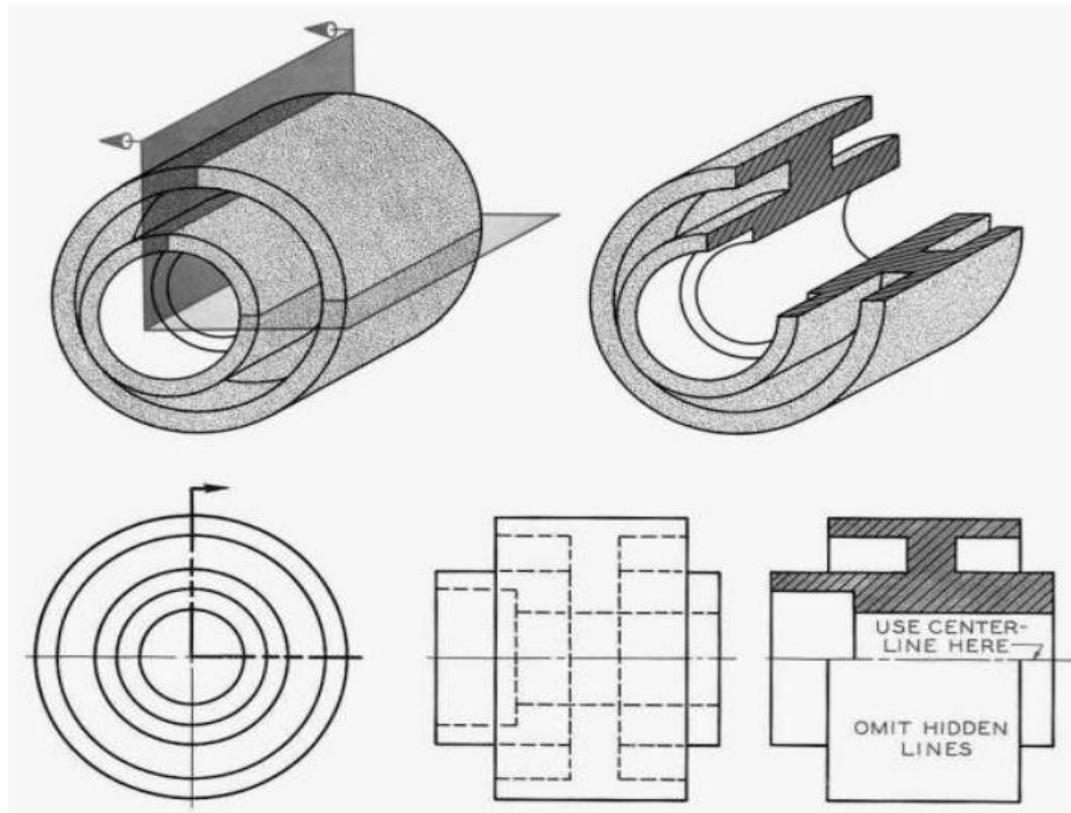

Figure 11
- A half section is made by **cutting halfway** through an object (**Fig. 11**).